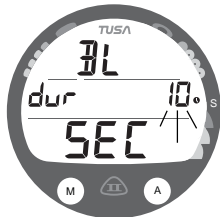

Fig. 31 - SET BACKLIGHT DURATION
**Set Backlight Duration**, information includes (Fig. 31):